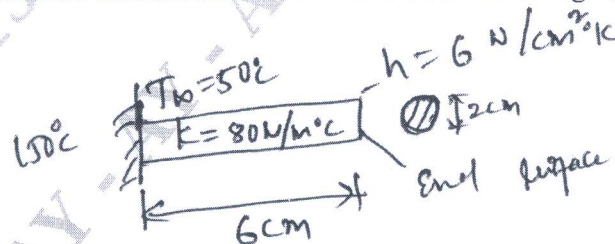

Fig. Q10 (b)
b. Find the temperature distribution for 1-D fin as shown in Fig. Q10 (b). (10 Marks)